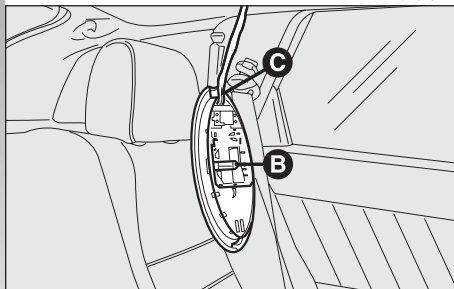

fig. 57
- Remove the bulb (**B-fig. 57**) pulling it outwards and releasing it from the side contacts.
- Refit the roof light firstly inserting the side (**C-fig. 57**) and then pressing on the other side until the catch clicks into place.